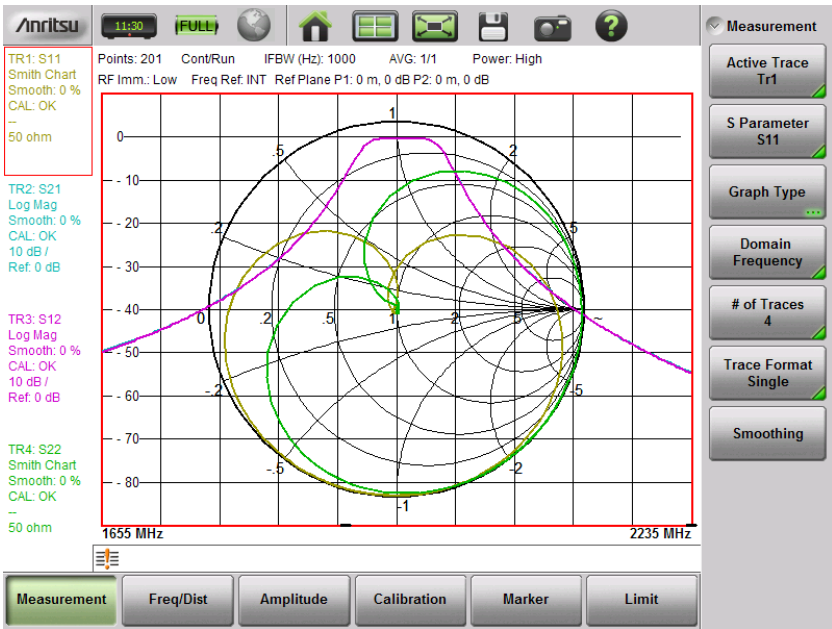

Figure 6-4. Format = Single, Traces = 4
2. Beginning with the default view, set Trace Format = Single, with Number of Traces = 4. Notice how all 4 traces are overlaid on a single graph. Refer to Figure 6-4.